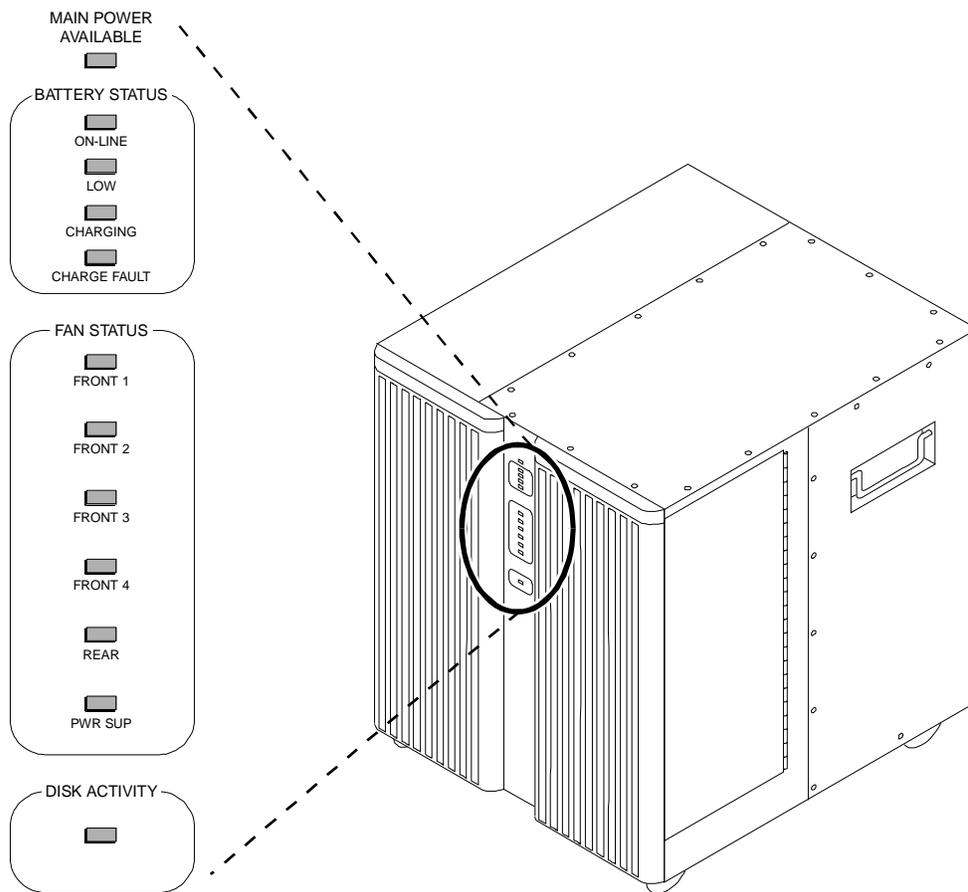

Figure 7-5. MAP/100 Monitoring Panel
The MAP/100 monitoring panel includes indicator lamps which are lit when the associated fan is in operation (Figure 7-5). The indicator lamp for the defective fan will not be lit.
11. Verify that the fan is working by observing the MAP/100 monitoring panel (Figure 7-5).
8. Verify that the fan is working by observing the MAP/100 monitoring panel (Figure 7-5).